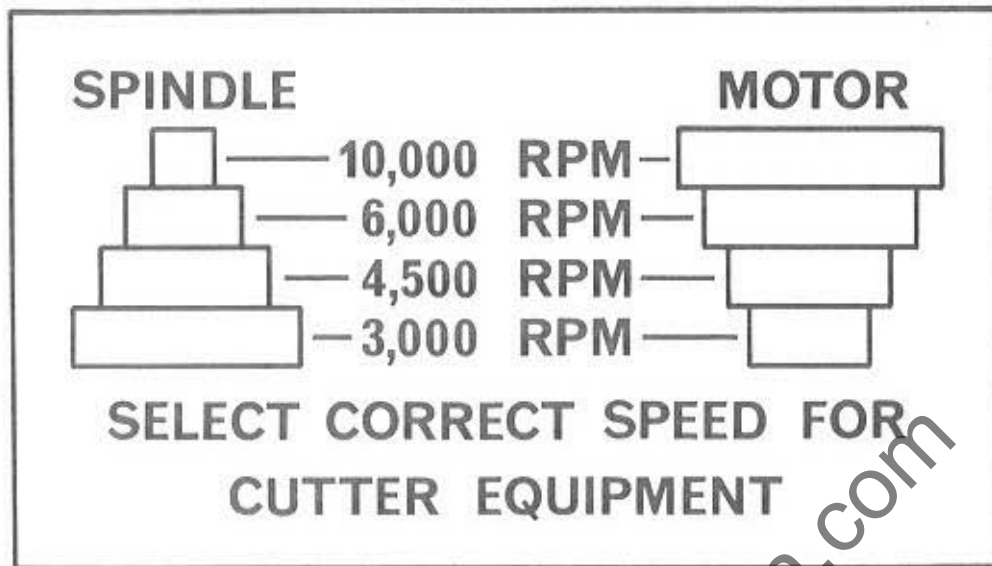

FIG. 7
4. Change belt to appropriate pulley vee's for required spindle speed. See Fig. 7 for pulley layout diagram & speeds.